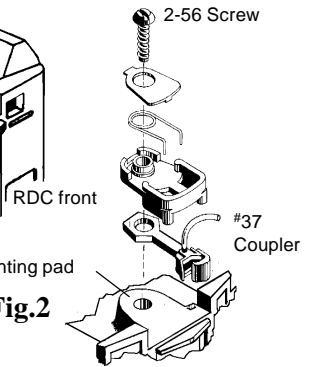

Fig.2
3. Assemble #37 Coupler with spring on the bottom, as shown in Fig.2. Align and secure with Athearn screw.